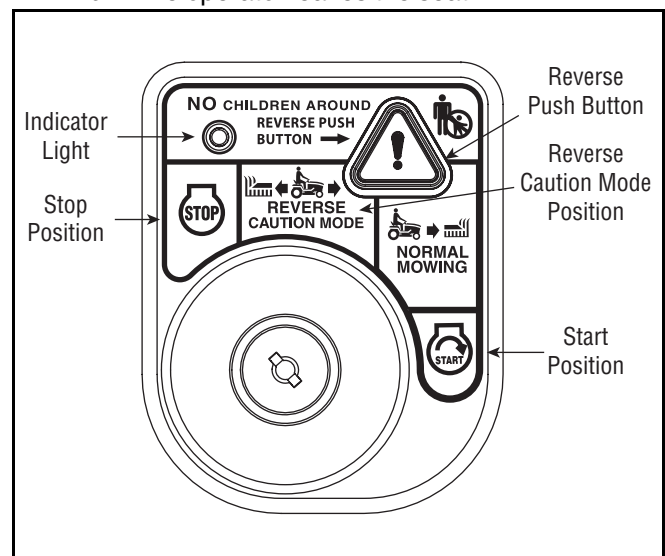

Figure 9
2. Turn the key from the **NORMAL MOWING** (Green) position to the **REVERSE CAUTION MODE** (White) position of the key switch module. See Figure 9.
3. Depress the **REVERSE PUSH BUTTON** (Orange, Triangular Button) at the top, right corner of the key switch module. The red indicator light at the top, left corner of the key switch module will be **ON** while activated. See Figure 9.